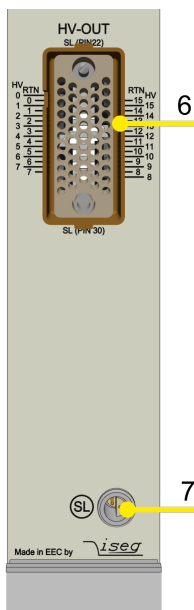
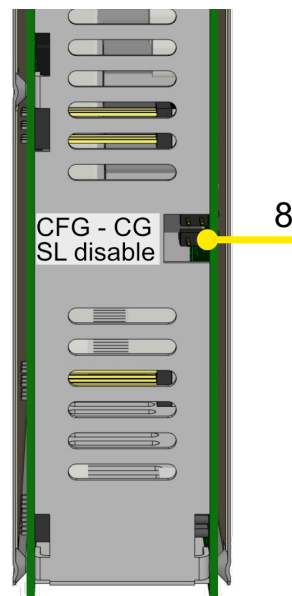
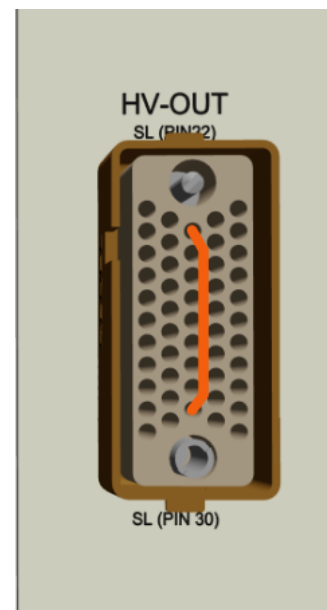

Figure 6: section of front view
Figure 7: section of back view
Figure 8: SL closed
A safety current loop can be implemented through the safety loop socket (SL) on the front panel (number 7 on Figure 6: section of front view) and, if available, on the modules with 8, 16, 24 and 32 channels at the REDEL-connector between the SL contacts (pin 22 and pin 30). When the safety loop is active, high voltage can only be generated in a channel if the safety loop is completely closed (SL plug and in the case of Redel plug, pin22 and pin30 on the plug, see Figure 8: SL closed, in the cable or on the detector supply are bridged) and an external current in a range of 5 to 20 mA of any polarity is driven through the loop. If the safety loop is opened during the operation the output voltages will be shut off without ramp, the corresponding bit in "ModuleStatus" is canceled and in "ModuleEventStatus" is set (see chapter 11 Appendix, "CAN\_EDCP\_Programmers-Guide.pdf"). After closing the loop again the "ModuleEventStatus" has to be reset and the channels have to be switched ON. The loop connectors are potential free, the internal voltage drop is approx. 3 V. By factory setup the safety loop is not active (the corresponding bits are always set). The loop can be activated by removing the jumper "SL-disable" on the rear side of the module ( Figure 7: section of back view).